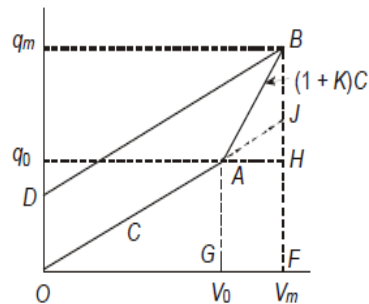

Fig. 5.3 Charge-Voltage diagram of corona.
1. Derive expression $P_c = \frac{1}{2} KC(V_m^2 - V_0^2)$ for the energy loss from the charge-voltage diagram fig 5.3